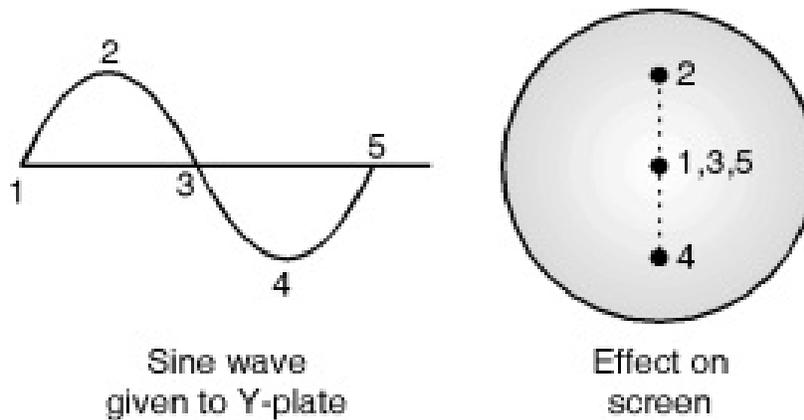

Fig. 7.14.2 : No x-plate signal applied
- The function of this stage is to spread the signal along x-axis. Let us see it through following diagram shown in Fig. 7.14.2.
- If a sine wave is applied to Y plates it is expected that on screen a sine wave is observed. But if there is no signal on X-deflection plate, we will get the image on screen as shown in Fig. 7.14.2 that is a vertical line.